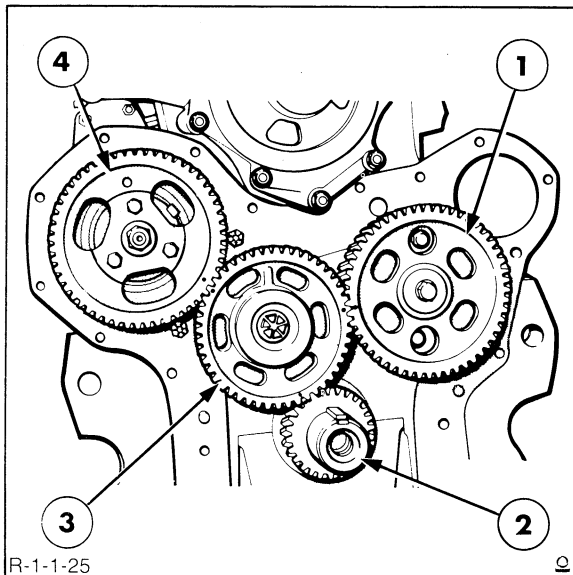
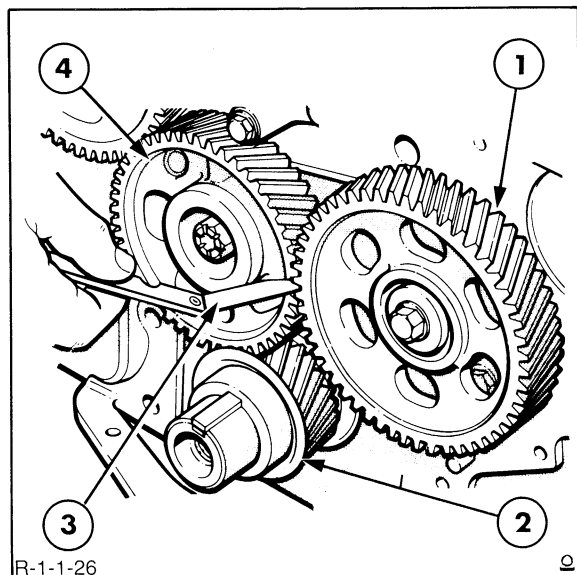

FIGURE 1-26
FIGURE 1-27
8. Before removing the timing gears, Figure 1-26, use a dial indicator or feeler gauges, to measure the backlash between each set of mating gears, Figure 1-27. Rotate the gears and check the backlash at four equidistant points on the gears. Replace the gears if the backlash exceeds the specified limits. Refer to the following specifications for gear backlash limits.